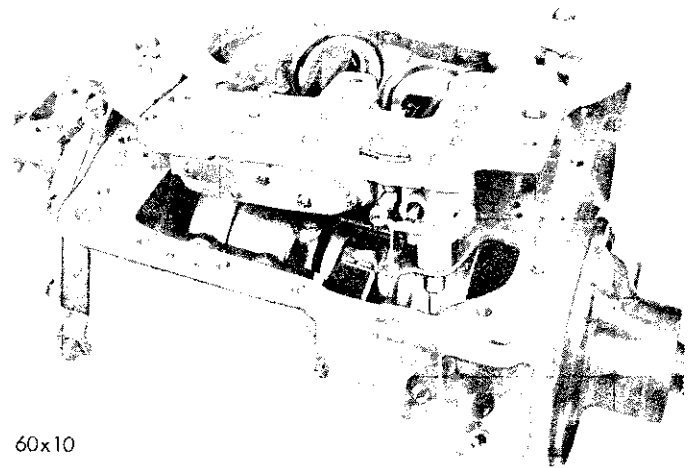

Fig. 33—Removal of the Valve Body Assembly
- (1) Remove the throttle valve lever and flat washer.
- (2) Remove the cable adapter stud nut.
- (3) Remove the oil strainer.
- (4) Remove attachment nut from cable adapter stud at manual lever and remove the adapter.
- (5) Remove the transfer plate bolts and remove the valve body assembly from the transmission (Fig. 33). Mating surfaces are machined: Use extreme care so as not to damage these surfaces. Place valve body in stand, Tool C-3528.
- (6) Remove the accumulator piston spring.